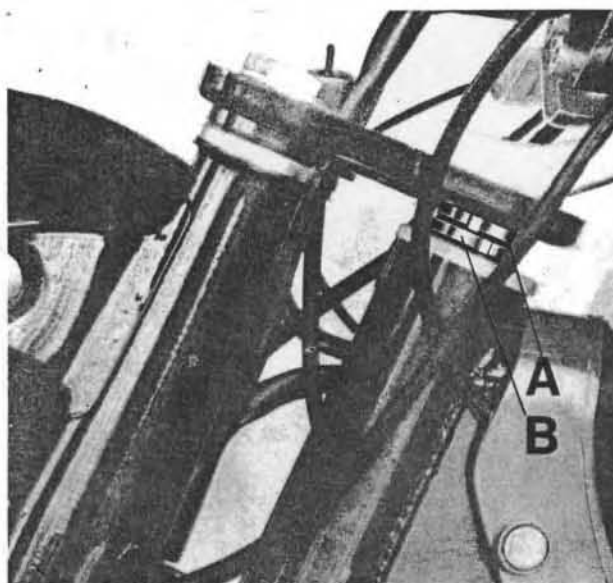

Fig. 101
- remove steering tube lockring (B) and lock cap (A) as shown on Fig. 101.
- fit steering tube lockring (see B on Fig. 101) and adjust steering play. Then secure lock cap (see A on Fig. 101) by means of special wrench.